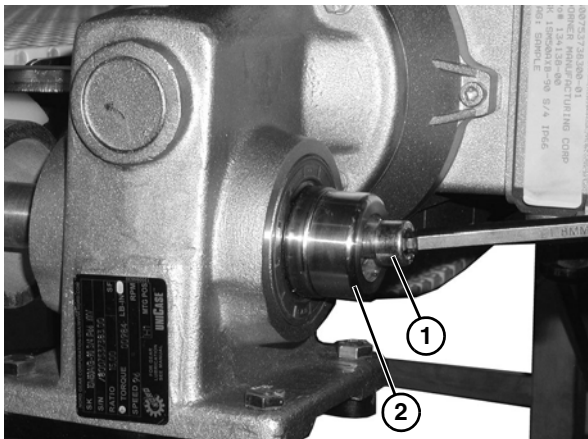

Figure 24
6. Remove the plastic cap on the end of the motor and remove the socket head screw (Figure 24, item 1) and the bore plug (Figure 24, item 2).